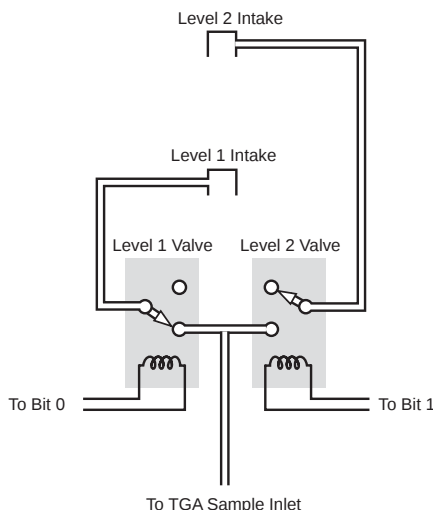
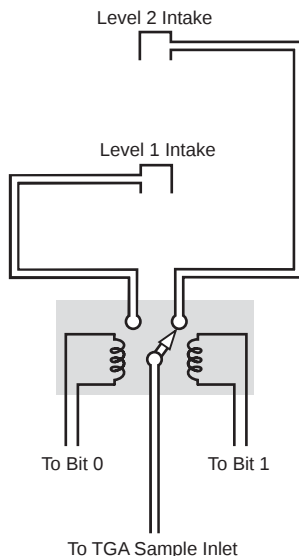

Figure 5-3. Gradient Valve Assembly with Two 2-Way Valves
Figure 5-4. Gradient Valve Assembly with a Latching Type 3-Way Valve
Example 1: The gradient valve assembly uses a pair of nonlatching two-way valves. The level 1 intake is connected to the level 1 valve, the level 2 intake is connected to the level 2 valve, and the output ports of both valves are connected by a tee to the TGA100 sample inlet. If the control signal to a valve is low, it will be closed; if the control signal is high, it will be open. This example is illustrated in Figure 5-3.
Example 2 illustrates the use of the *Pulse Samples* and *Invert digital output bits* parameters (see Figure 5-4). For this example the gradient valve is a latching type three-way valve. The level 1 intake is connected to valve inlet port 1, the level 2 intake is connected to valve inlet port 2, and the valve output port is connected to the TGA100 sample inlet. The valve has two control inputs: A low-voltage pulse on control input 1 will connect port 1 to the output port, and a low-voltage pulse on input 2 will connect port 2 to the output port. The valve latches onto its new state when switched, so the control signals do not have to be energized continuously. They only need to be held to a low voltage for 0.2 s to set the valve state, and then the valve will stay in that state until the other control input is pulsed.
- A pair of two-way valves (Figure 5-3) will generally be better matched than the two inlets of a single three-way valve (Figure 5-4).